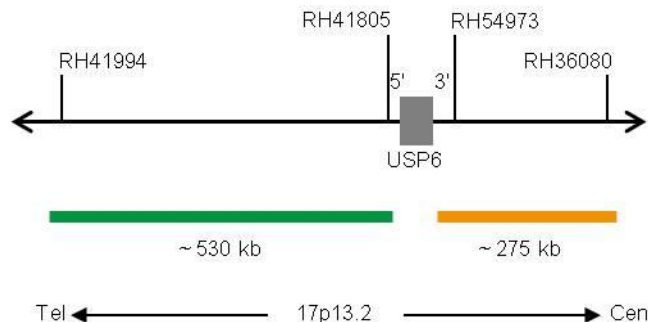

Fig. 1: SPEC USP6 Probe map (not to scale)
- ZyGreen (excitation 503 nm/emission 528 nm) labeled polynucleotides (~10.0 ng/μl), which target sequences mapping in 17p13.2\* (chr17:4,489,889-5,017,582) distal to the USP6 breakpoint region (see Fig. 1).
- ZyOrange (excitation 547 nm/emission 572 nm) labeled polynucleotides (~4.5 ng/μl), which target sequences mapping in 17p13.2\* (chr17:5,087,046-5,361,104) proximal to the USP6 breakpoint region (see Fig. 1).